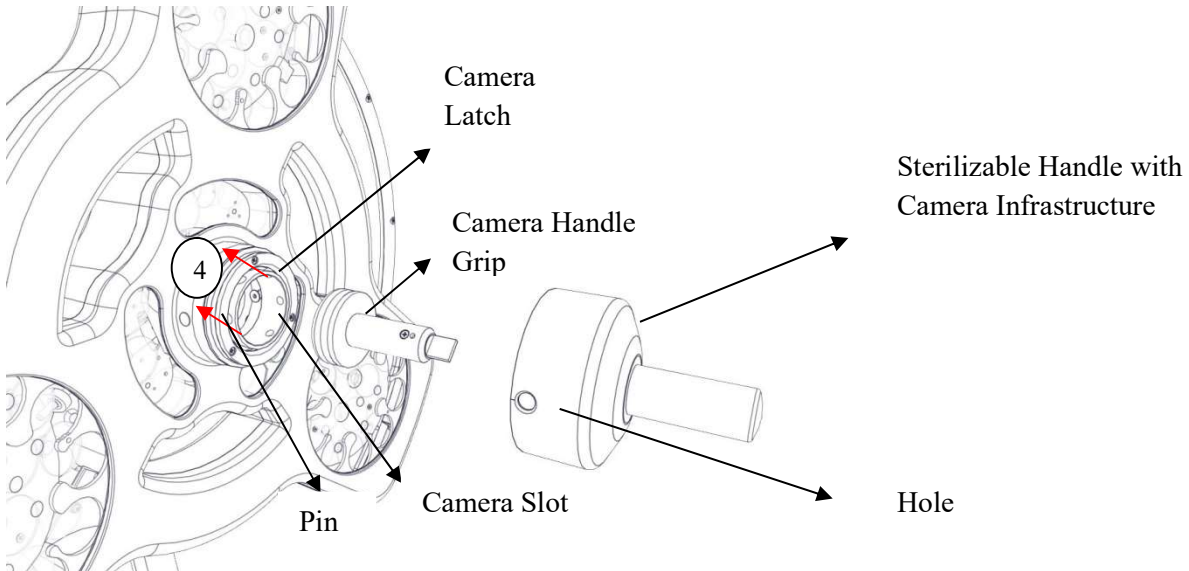

Figure 18 Light Head with Camera Infrastructure
- The camera latch shown in Figure 18 should be pushed towards the light head body in the 4 direction indicated by red arrows. Place the camera handle grip in the camera socket on the front of the light head and release the camera latch pushed to the light head body. When the camera handle grip is rotated slowly around its axis, a "click" sound will be heard if the camera handle grip is correctly placed in the mount. The camera latch will automatically return to its original position when the camera handle grip is correctly seated in its slot.
- After the camera handle grip is attached, sterilizable handle with camera infrastructure is attached to the handle grip. In order for the handle to fit in its place, it should be ensured that the pins and holes shown in Figure 18 are interlocked. For this, the sterilizable handle with camera infrastructure should be rotated around its own axis and a "click" sound should be heard.